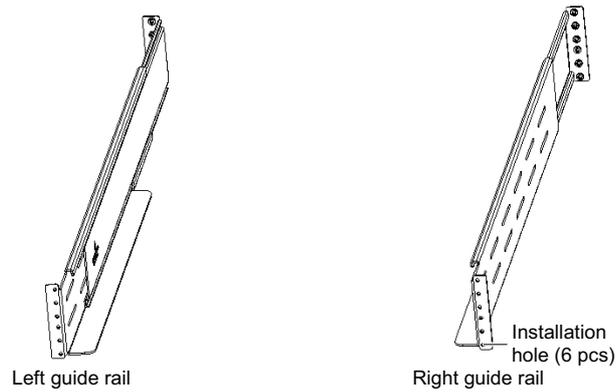

Figure 2-7 Guide rail
- 1) Take out the guide rails (one left guide rail and one right guide rail), guide rail screws and panel screws from the package, distinguish the left and right guide rail according to Figure 2-7, and confirm its retractable function respectively.
2. Each guide rail has six installation holes (as shown in Figure 2-7), do not use the two installation holes in the middle when fixing the guide rail. It is recommended to use the top and bottom installation holes (from top to bottom, installation hole 1 and installation hole 6).